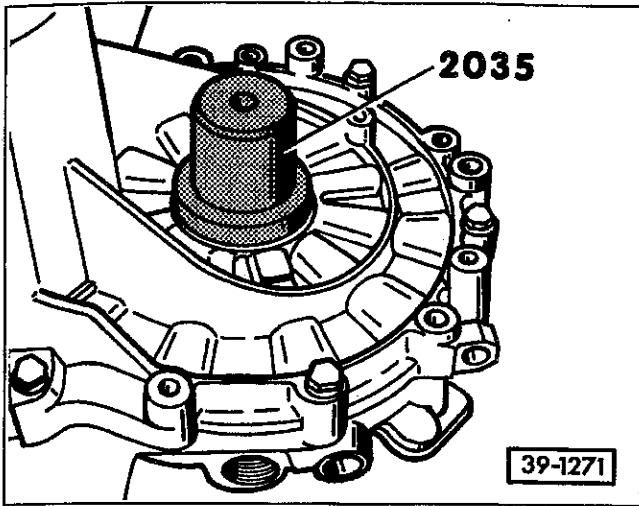

Fig. 10. Drive flange oil seal being installed Volkswagen special tool no. VW 2035.
1. Fill space between lips of new oil seal with multi-purpose grease. Then drive seal in against shoulder. See Fig. 10.